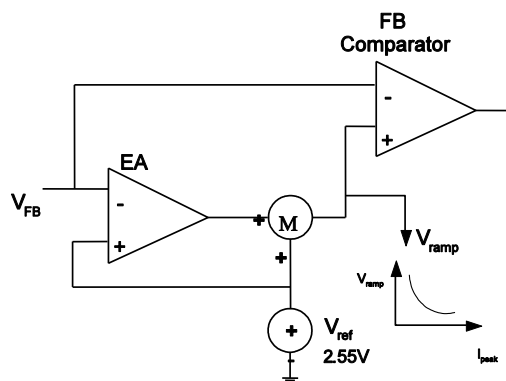

Figure 5: EA and Ramp Compensation
To achieve a better load regulation, the MP9488 employs an error amplifier (EA) compensation function (see Figure 5). After a 6 μs delay from the MOSFET turning off, the MP9488 samples the feedback voltage. With EA compensation, the reference voltage (2.55V) can be regulated with the load. This can achieve a better regulation of the power module.
To maintain a precise output voltage, an internal ramp compensation circuit is added. An exponential voltage sinking source is added to pull down the reference voltage of the feedback comparator (see Figure 5). The ramp compensation is related to the load conditions. In full-load condition, the compensation is about 3mV/ μs . When the load decreases, the compensation increases exponentially.